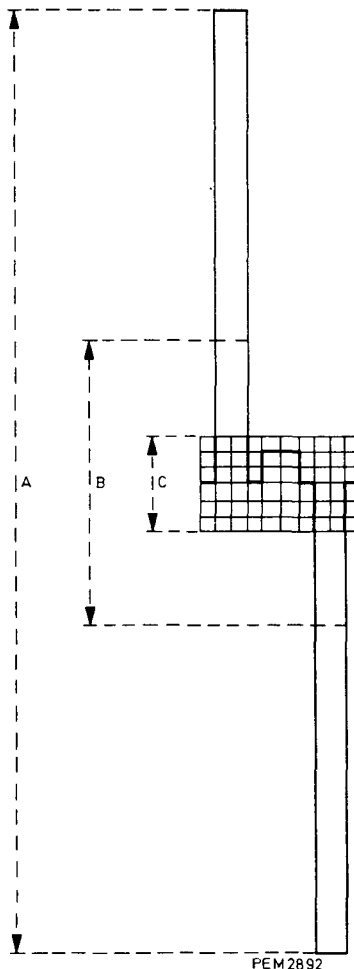
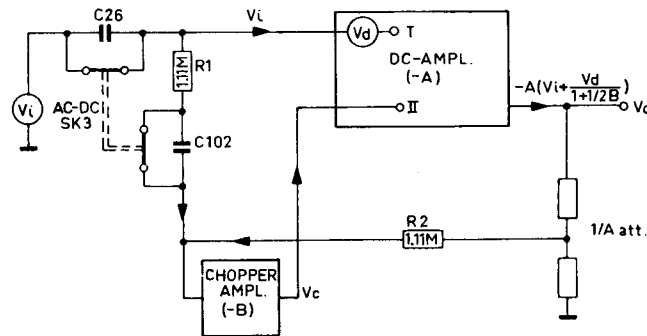

Fig. 9. Limits of Y-deflection
Fig. 10. Control loop
Fig. 9 shows the maximum permitted magnification (A) of a signal together with the portion of the signal (B) which may be displayed on the screen using the POSITION control.
The output of the d.c. coupled l.f. amplifier ( $V_o$ ) is attenuated by a factor A, at the 1/A attenuator. Voltage  $V_i$  is fed to one end of the voltage divider formed by R1 & R2 (fig. 10). The other end of this divider is supplied by voltage  $V_o/A$ .
Since  $B \approx 1000$ , it is clear that drift is reduced by a factor of  $\approx 500$ . With the AC-DC switch SK3 set to AC, capacitor C102 is connected in series with R1 (Fig. 10) so that the voltage divider formed by R1 & R2 (Fig. 9) is blocked to d.c. Any leakage voltage of C26 is added to the voltage  $V_d$ : consequently, the new drift voltage
With the AC-DC switch set to AC, small a.c. signals superimposed upon a maximum of 400 V.d.c. may be observed. At the same time, relay RE101 is energized and this causes C102 to be connected into the comparison circuit which is represented by R1, R2 & C102 in Fig. 10.
When the step attenuator is set to its four smallest deflection coefficients (i.e. 0.5 mV/cm, 1 mV/cm, 2 mV/cm and 5 mV/cm) no attenuation is applied to the input signal. Trimmers C18, C21, C24 and C29 enable the input capacitance to be adjusted to exactly 15 pF. For all the remaining deflection coefficients, attenuator networks are connected between the input terminal and source follower TS101. Trimmers C33, C36, C39, C43, C47, C51, C54, C58 enable the input capacitance to be adjusted to exactly 15 pF, whilst optimum square wave response can be obtained by means of C32, C34, C38, C42, C46, C49, C53, C57. The 1.11 M $\Omega$  resistor shown schematically as R1 in Fig. 10 is formed by two resistors (R102 & R103, 110 K $\Omega$  and 1 M $\Omega$  respectively) which are series-connected in order to form a value which results in a 1 M $\Omega$  input resistance. Note that the series combination formed by R102 and R103 is in parallel with the gate current compensation network which includes the 10 M $\Omega$  resistor R104. This gate compensation network (which also includes resistors R106, R107, R110, R115 & potentiometer R108) supplies either a positive or negative current, depending upon the setting of R108. This current is required by the source follower stage TS101 which supplies the input signal to the split band amplifier.